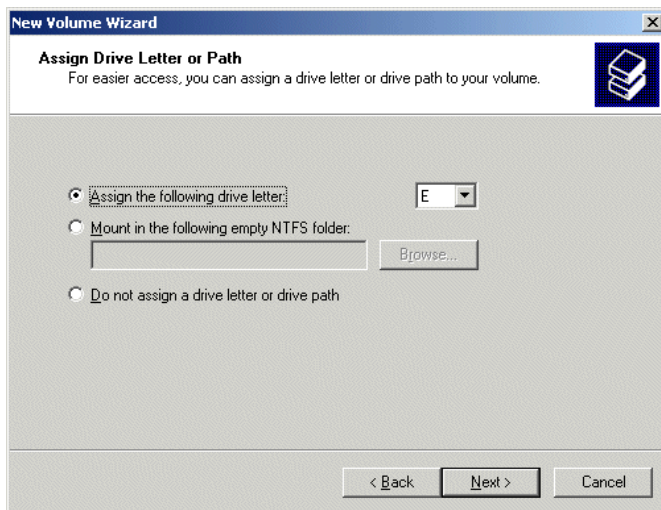

Figure 6-27
- 29) Click the **Next** button to be presented with the **Assign Drive Letter or Path** screen. Ensure that the **Assign the Following Drive Letter** item is selected and accept the default letter presented by the system (or enter a different letter if you require) as shown in Figure 6-27.